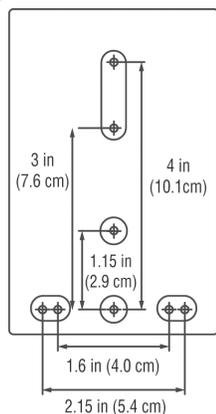

Fig. 2
2. Secure the winch to the mounting structure with 3/8" diameter Grade 8 bolts, washers and lock nuts. The winch base hole pattern can be found in Figure 2.